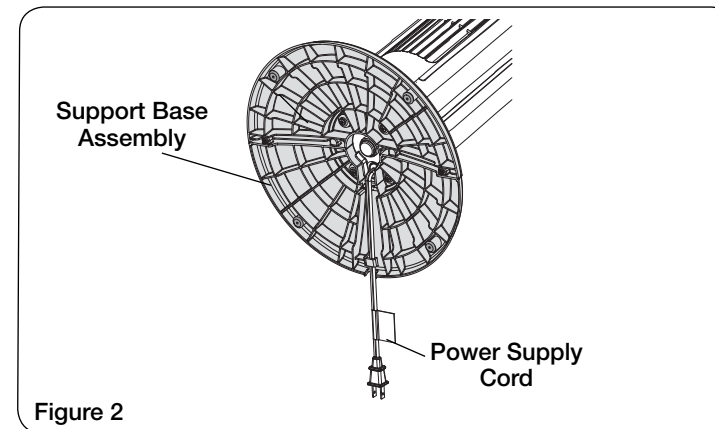

Figure 2
3. Secure (2) #8 X 3/8" Screws into the two outer holes in the bottom of the Base. (Figure 2)